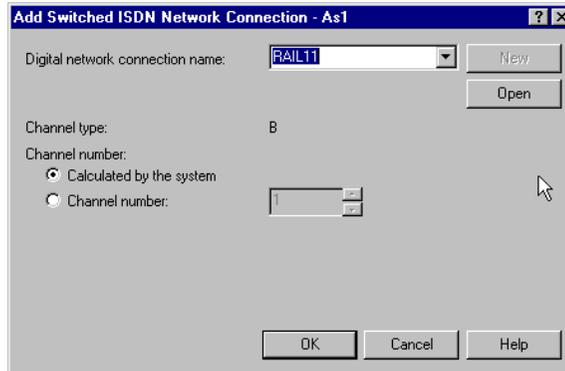

Figure 65. Adding a switched ISDN network connection to create a new line
6. Select the network interface (Figure 65) to which the PPP line can be attached.